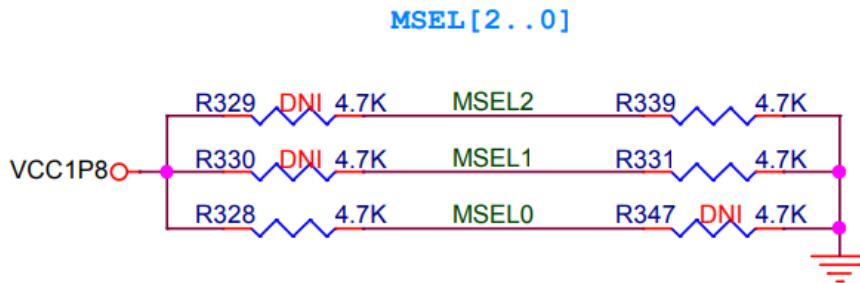

Figure 2-1 The MSEL pin setting
As shown in **Figure 2-1**, the mode select pin of the FPGA on the Apollo Agilex board has been set to **Active Serial (AS) mode** using resistors. Thus, the Apollo Agilex board supports the following configuration modes:
- Active Serial (AS) mode